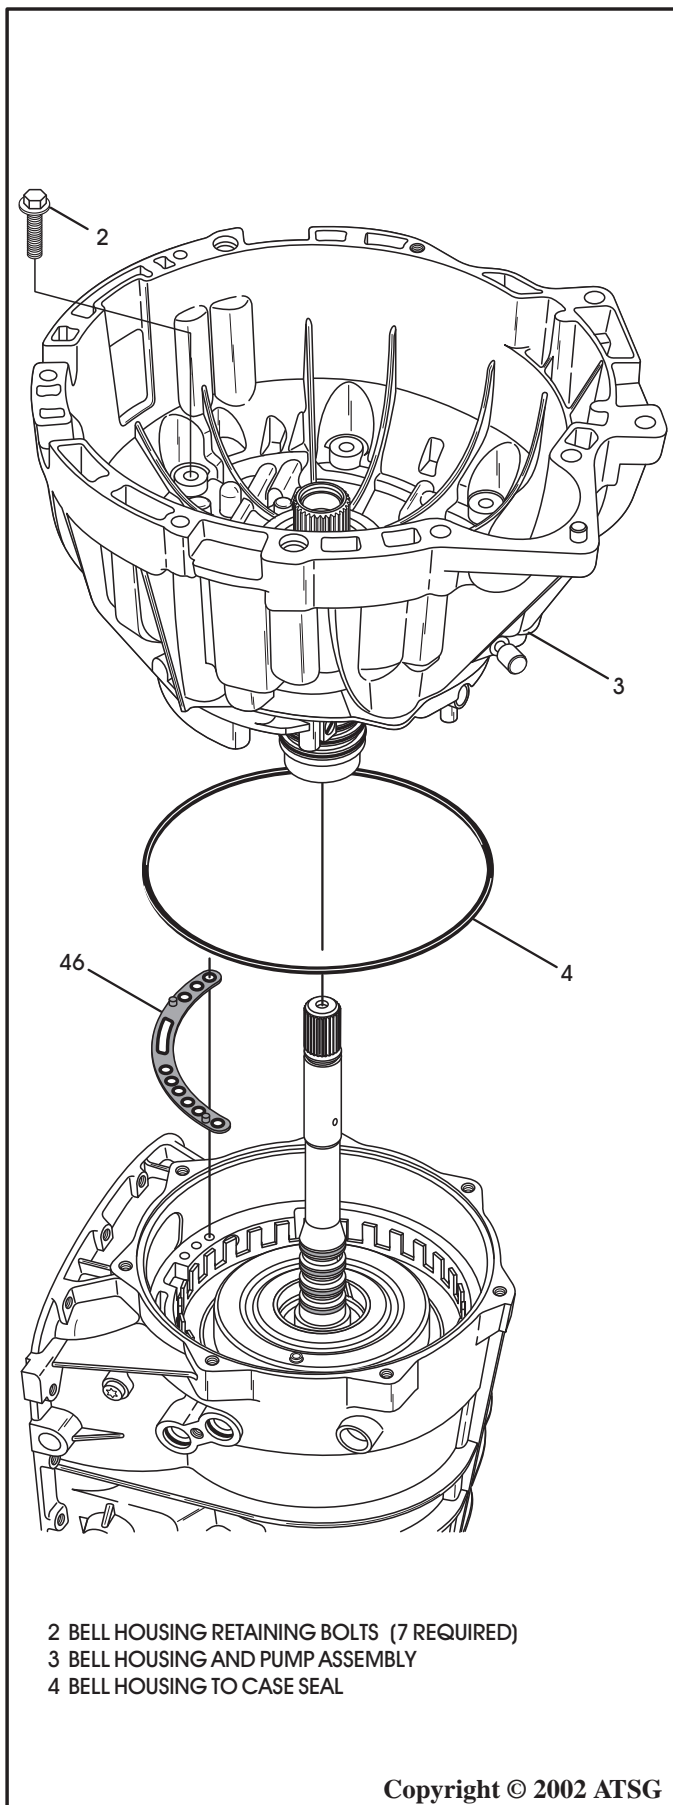

Figure 192
27. Install the molded pump to case gasket (46) onto the back side of pump cover, as shown in Figure 192, using the molded guide pins.
29. Install complete converter housing assembly onto case, as shown in Figure 192.
30. Install the seven converter housing to case bolts, as shown in Figure 192. Refer to the bolt chart to identify proper bolts.